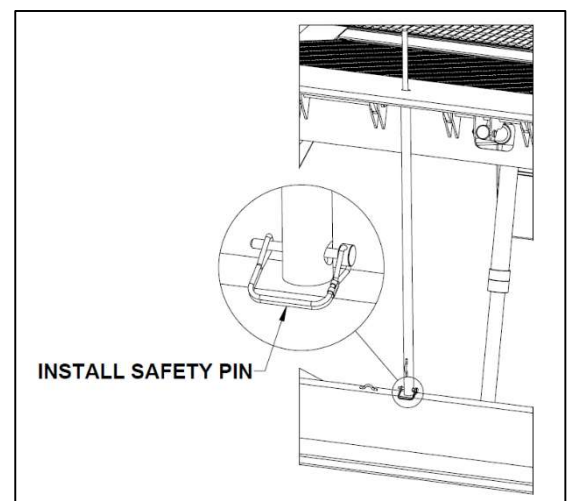

Figure 12b: Installing the Safety Pin
5. Install safety pin through peg to hold strut in place (Figure 12b).